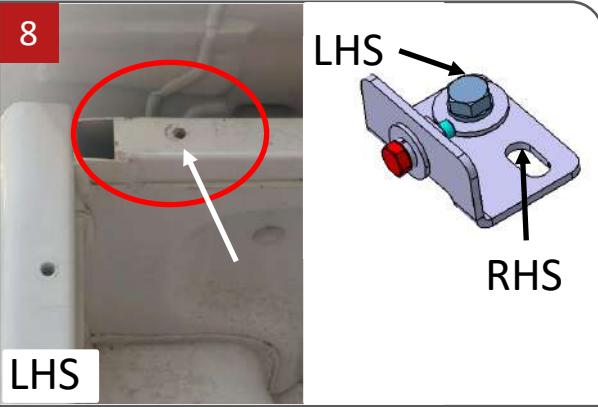

Figure 8
- Place the bracket on as shown in **Figure 8**. Use the supplied fasteners from **FS00595**.